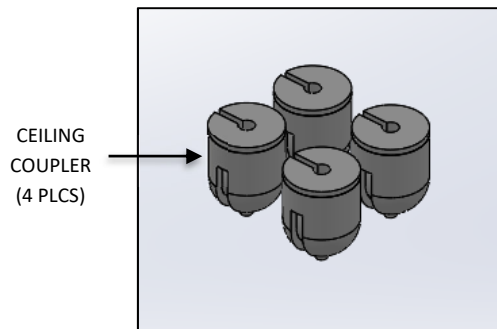

FIG. 5 - MOUNTING KIT CONTENTS
- a. MOUNTING KIT (as shown in FIG. 5)
- i. FOUR (4) CEILING COUPLER (CC)